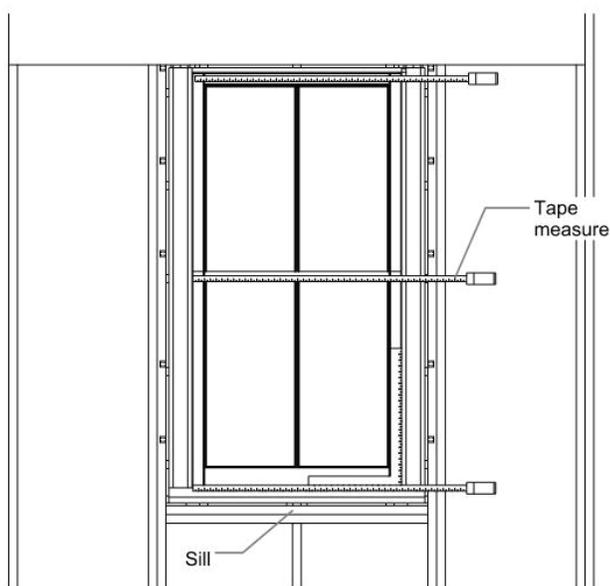

Figure 3
- 1) Measure the width. Measure the width between the side jambs (wood surface to wood surface) in three places: top, middle, and bottom. Temporarily remove jamb liners if necessary and avoid any stops, weatherstrip, balance cords, pulleys, etc. Record your measurements. *(See Figure 3 on next page)*